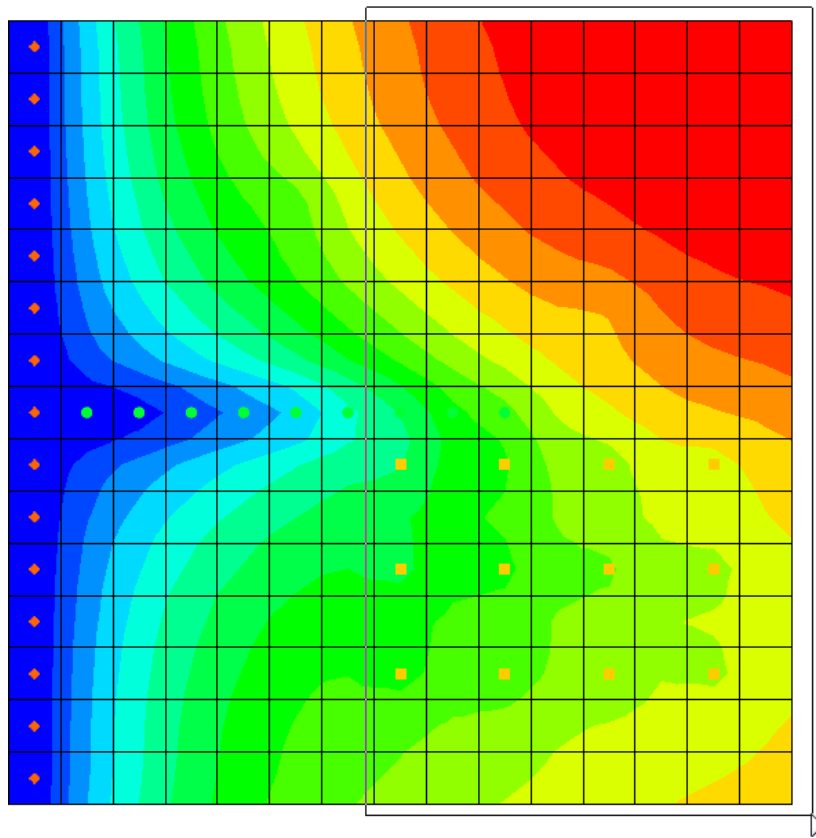

Figure 10 Dragging a box around the rightmost eight columns
- Using the **Select Cells**  tool, select the rightmost eight columns (see Figure 10).